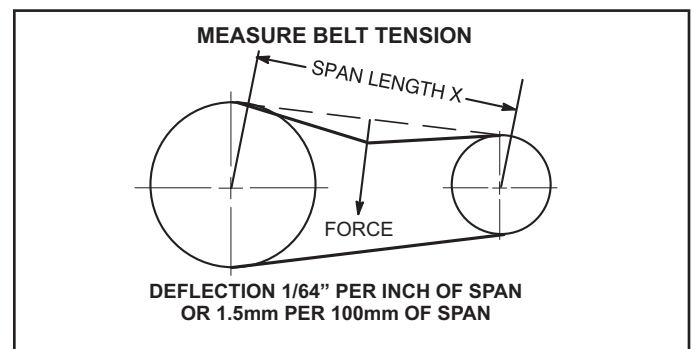

FIGURE 11
- 1 - Measure span length X. See FIGURE 11.
- 2 - Apply perpendicular force to center of span (X) with enough pressure to deflect belt $1/64$ " for every inch of span length or 1.5mm per 100mm of span length.